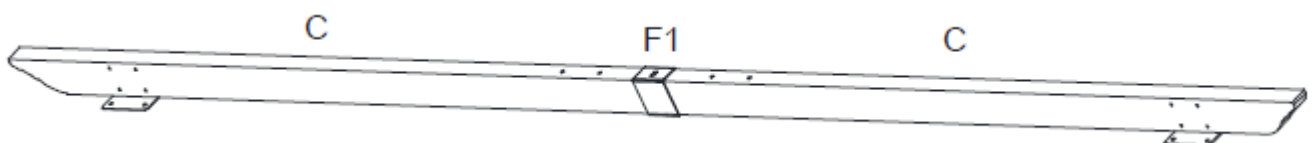

Figure 2-4
Step 2D: Repeat Step 2A to Step 2C for remaining Outside Lintels (C). **Tighten all Bolts.** See Figure 2-4.